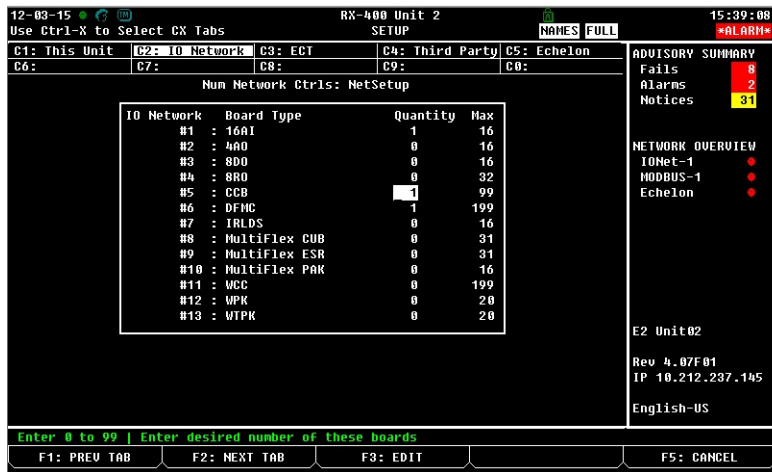

Figure 3 - E2E Connected I/O Screen
1. Press (Connected I/O Boards and Controllers). The I/O Network screen will open (Figure 3 - E2E Connected I/O Screen).